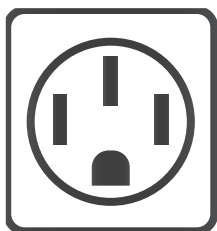

Fig. 5.5.1
1. Determine the plug type purchased by the homeowner. The NEMA 14-50 is required. (See Fig. 5.5.1)